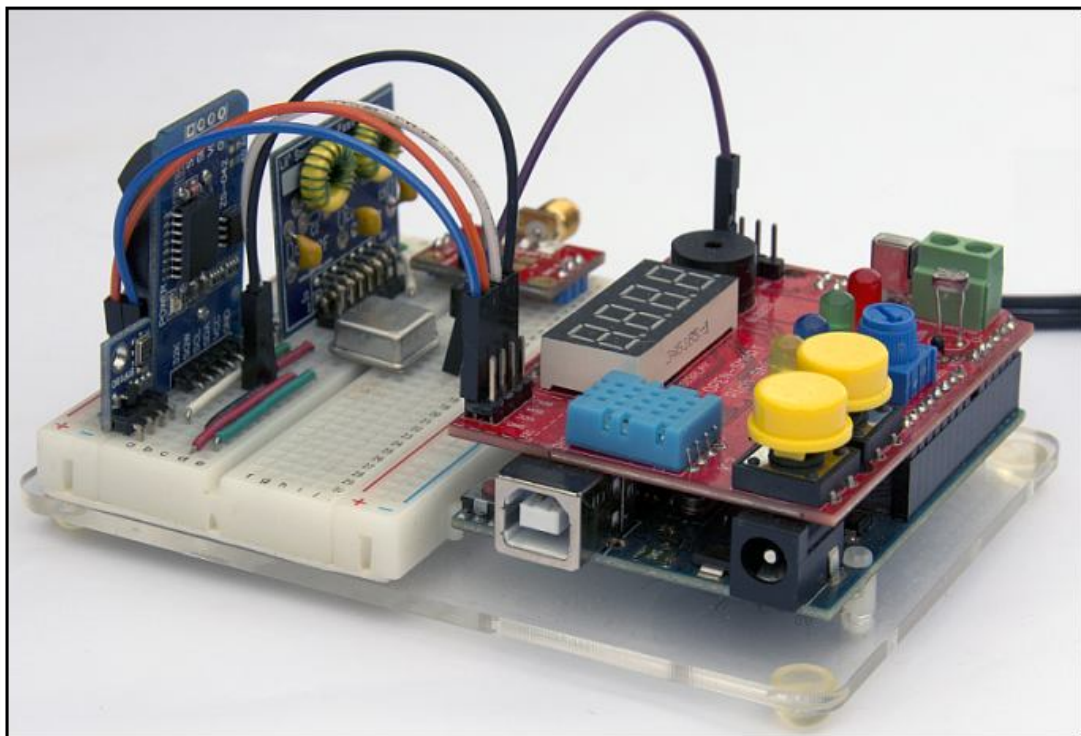

Figure 3: Rich Shield QRpp Telemetry Transmitter
7. I've designed a flea power (QRpp) Morse code beacon that transmits telemetry about my campsite trailer solar/battery power supply status and the onsite temperature/humidity so I can monitor things from home (see Figure 3). It uses the Rich Shield, a solderless mini-breadboard with its RF components mounted on an acrylic plate available from AliExpress.com et al). Coloured code wiring helps minimize errors and to identify power, ground, control and data lines at a glance. And there's still some free space (and headers) to add more "stuff"! But that's for another column.